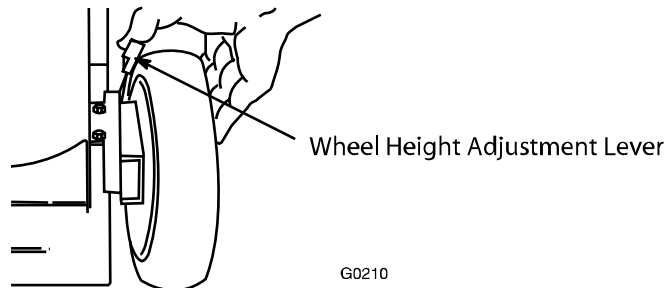

Figure 9
1. Pull the wheel height adjustment lever toward the wheel (Fig. 9) and move it to the desired setting.
3. Slide the hole in the bag frame onto the retaining post on the discharge tunnel (Fig. 9).